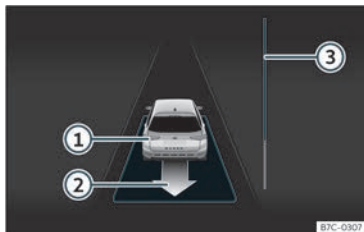

Fig. 182 On the instrument panel display: exit a parallel parking space.
The progress bar »» Fig. 182 ③ indicates the distance to cover »» page 260 .